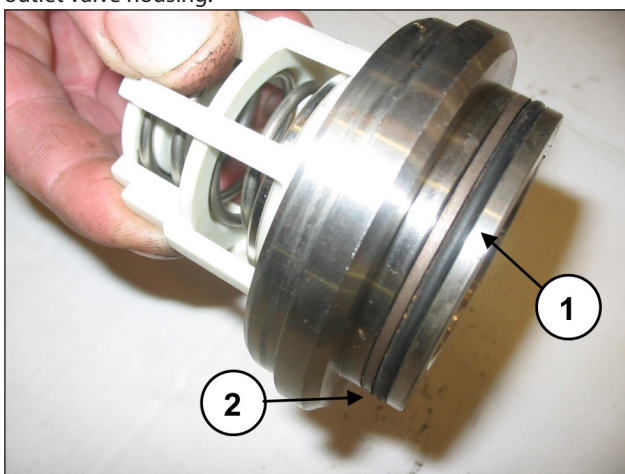

Fig. 119
Fit the O- ring, exploded view pos. 6 (pos. ①, Fig. 119) and back-up ring, exploded view pos. 14 (pos. ②, Fig. 119) on the outlet valve housing.